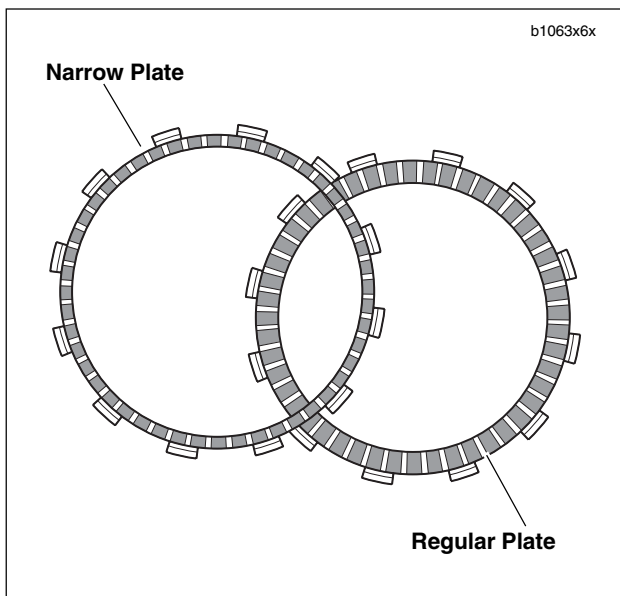

Figure 6-19. Friction Plates
2. See Figure 6-19. Install the narrow friction plate on the clutch hub engaging tabs on plate with slots in clutch shell.